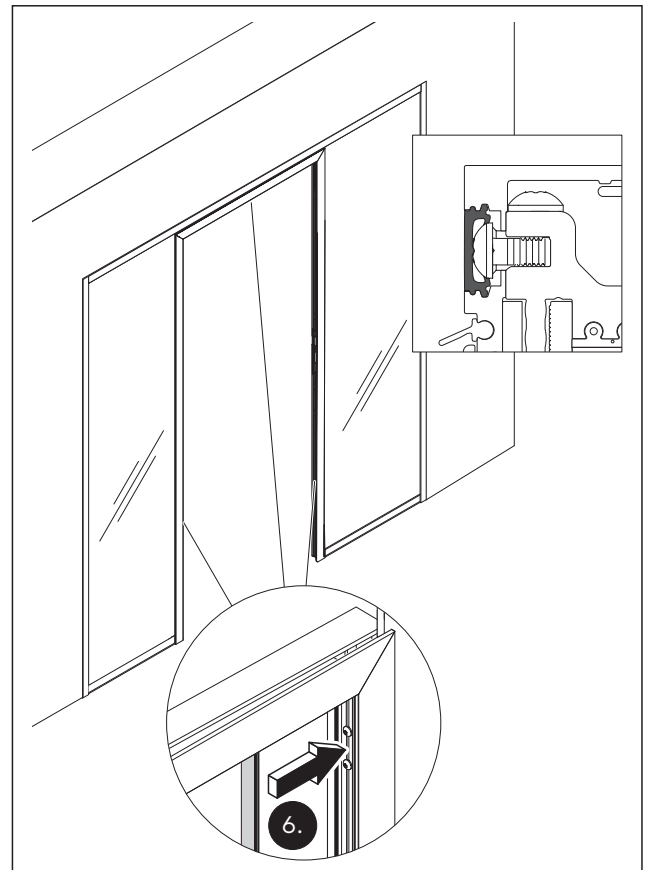

Fig. 44 Attach the inner silicone seals over the screws in the passage.
- Attach the silicone seals over the screws (Fig. 44).